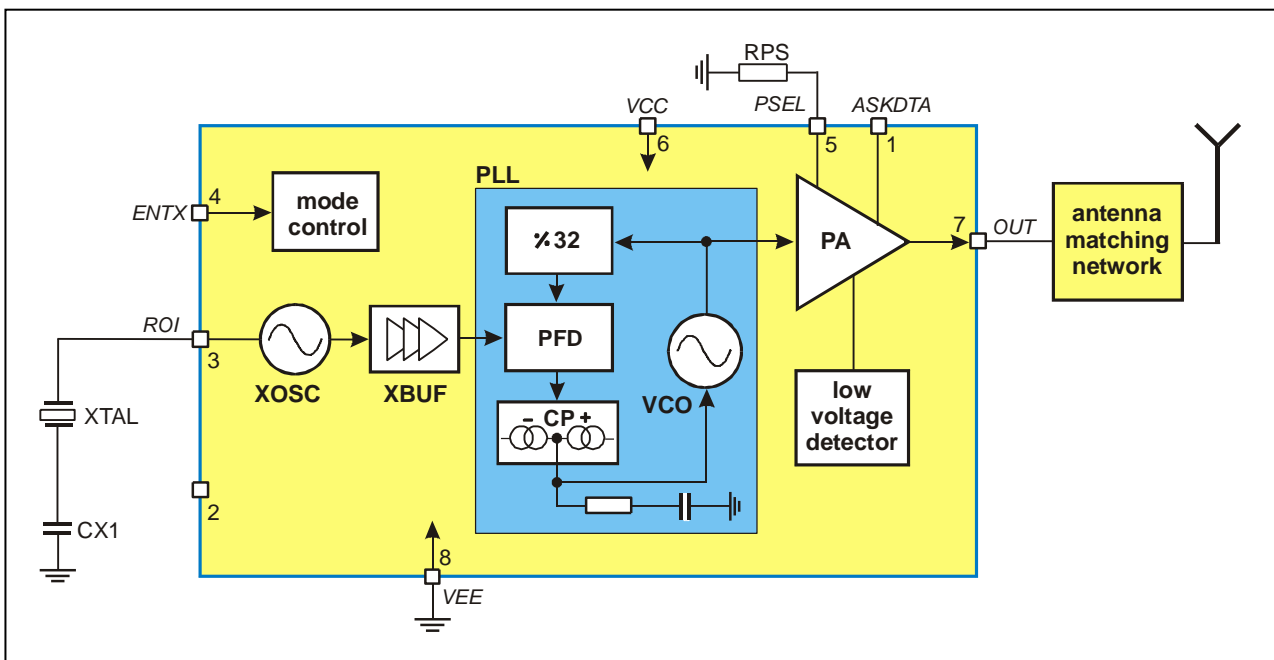

Fig. 1: Block diagram with external components
As depicted in Fig.1, the TH72002 transmitter consists of a fully integrated voltage-controlled oscillator (VCO), a divide-by-32 divider (div32), a phase-frequency detector (PFD) and a charge pump (CP). An internal loop filter determines the dynamic behavior of the PLL and suppresses reference spurious signals. A Colpitts crystal oscillator (XOSC) is used as the reference oscillator of a phase-locked loop (PLL) synthesizer. The VCO's output signal feeds the power amplifier (PA). The RF signal power P_{out} can be adjusted in four steps from $P_{out} = -12$ dBm to +11 dBm, either by changing the value of resistor RPS or by varying the voltage V_{PS} at pin PSEL. The open-collector output (OUT) can be used either to directly drive a loop antenna or to be matched to a 50ohm load. Bandgap biasing ensures stable operation of the IC at a power supply range of 1.95 V to 5.5 V.